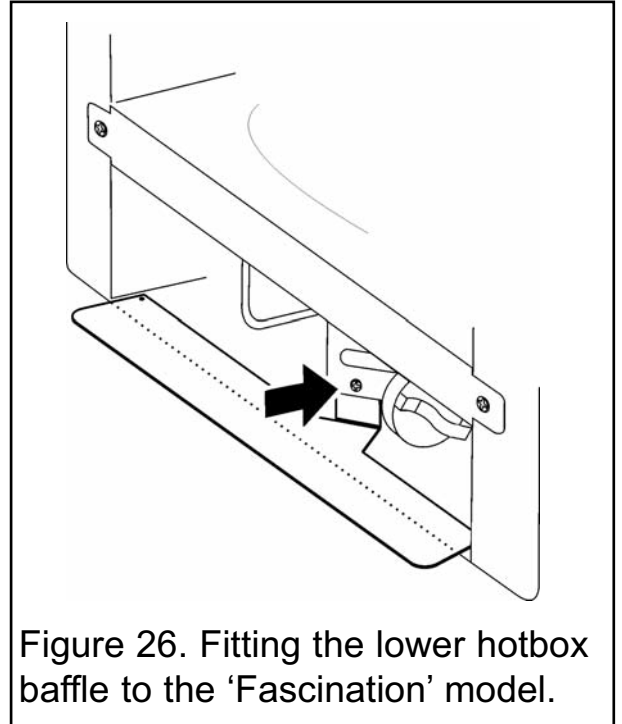

Figure 26. Fitting the lower hotbox baffle to the 'Fascination' model.
1. Locate the baffle as in figure 26.